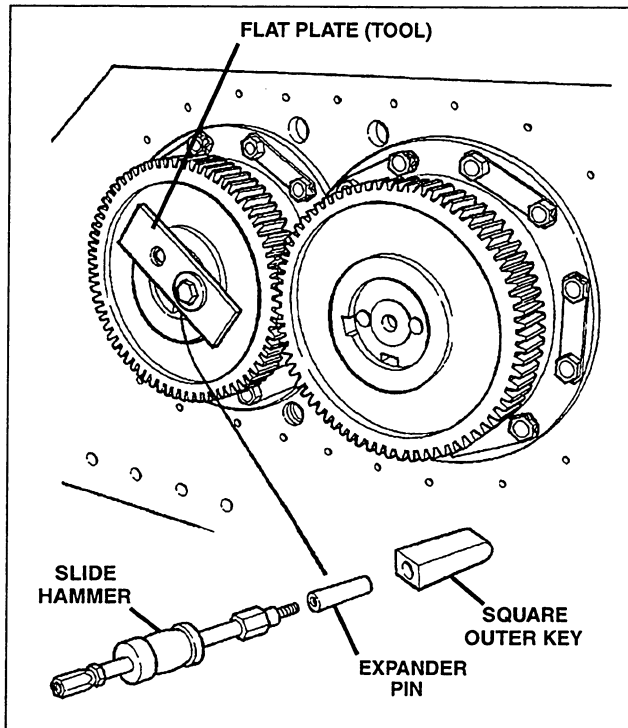

Figure 4-4. Removing Expander Pin
10. Break lockwire (36) and remove capscrews (35). Remove the two gear retaining washers (34).
Note: Gear keys (31) are of two-part construction, consisting of an external square key with a drilled center bore and a tapered expander pin. (Refer to Figure 4-4.)
11. Remove keys (31) as follows:
A. Remove two lockwashers (32) and capscrew (33) mounted in the tapped end of the expander pin portion of key (31).
B. Install flat plate shown in Figure 4-4. The plate will prevent gear (30) from falling off in Step C.